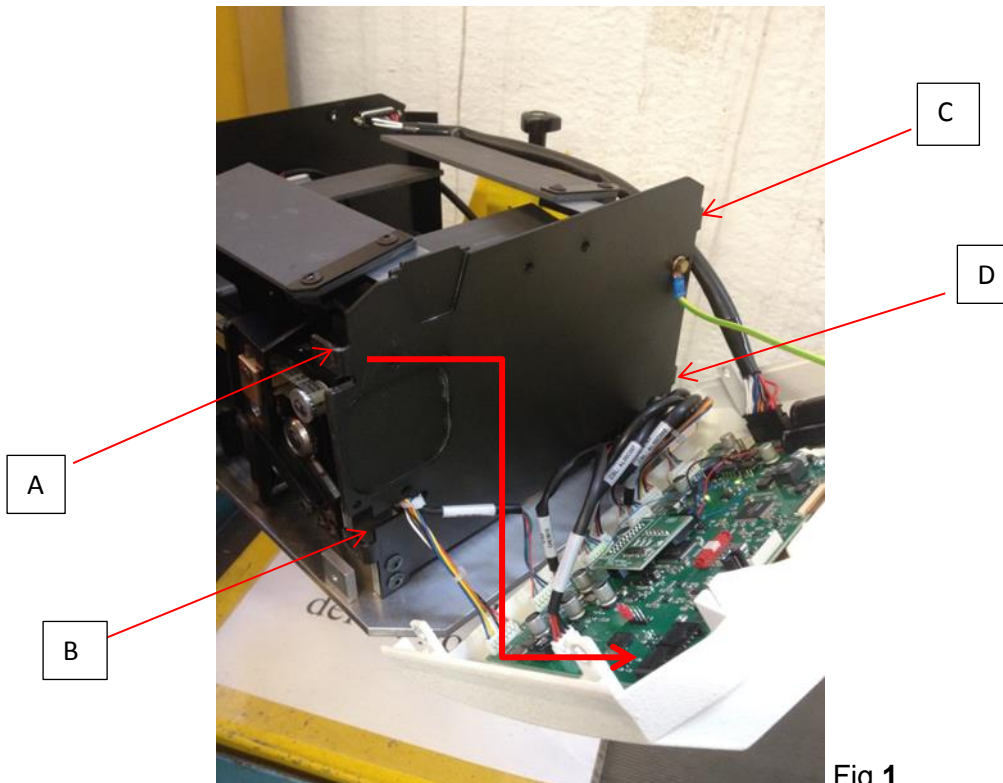

Fig 1
2. Remove the collimator covers and loosen the front cover with the board and connectors by removing the screws **A)**, **B)**, **C)**, and **D)** in fig.1